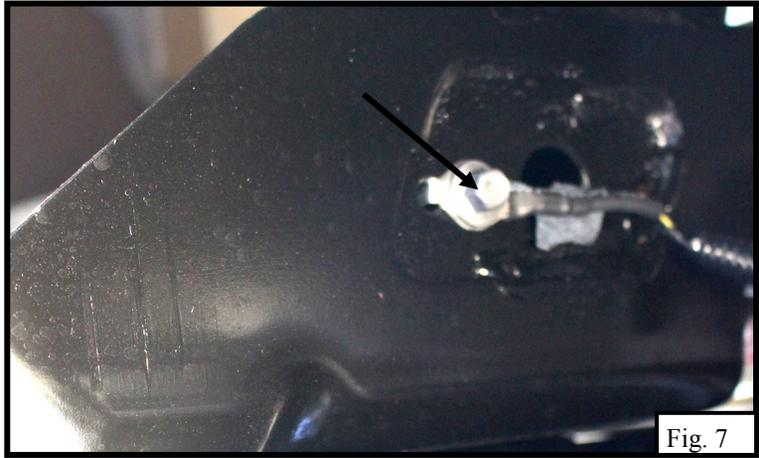

Fig. 7
10. Remove ground connections and save screw for reinstallation. Located on the passenger side under the rear of the vehicle. **See Fig 7.**